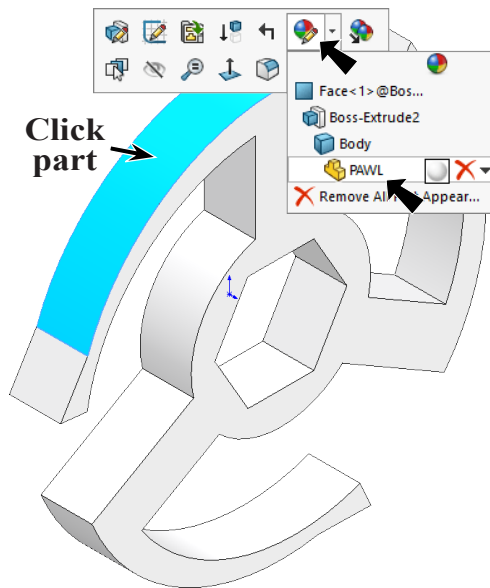

Fig. 24
Step 1. Click part, click **Appearance Callout**  on the context toolbar and click **PAWL** , **Fig. 24**.